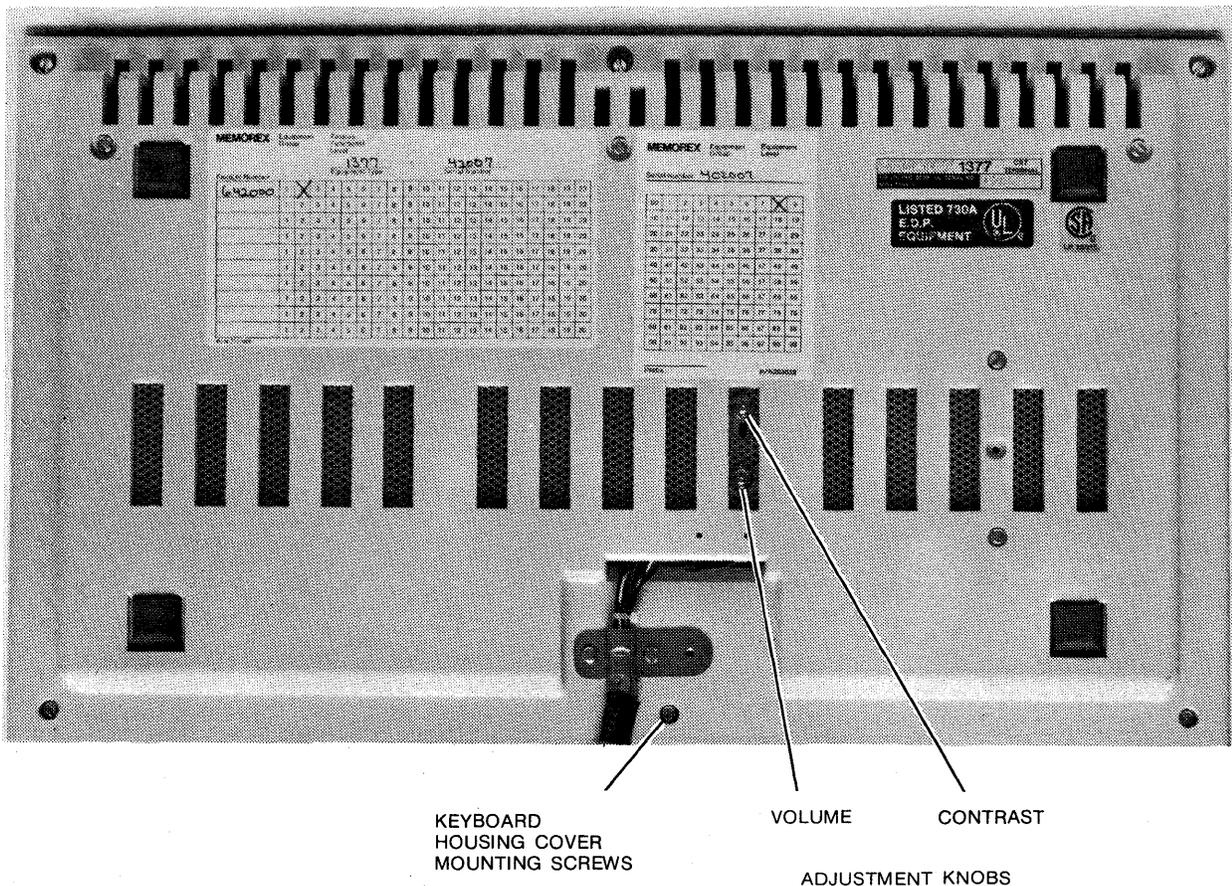

FIGURE 4-4. KEYBOARD (BOTTOM VIEW)
1. Tilt the keyboard as shown in Figure 4-4.
2. Remove the six keyboard housing cover mounting screws located on the bottom of the keyboard (Figure 4-4).
Contrast and volume adjustments are made with the two controls located on the underside of the keyboard housing. (Reference Figure 4-4.) Maximum contrast (display clarity, brightness) and volume (audible alarm volume level) is achieved by turning the appropriate control in the clockwise direction.